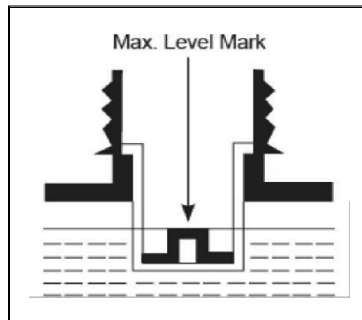

Fig.3B
- Do not overfill the fuel tank (there should be no fuel above the upper limit mark Fig. 3B).